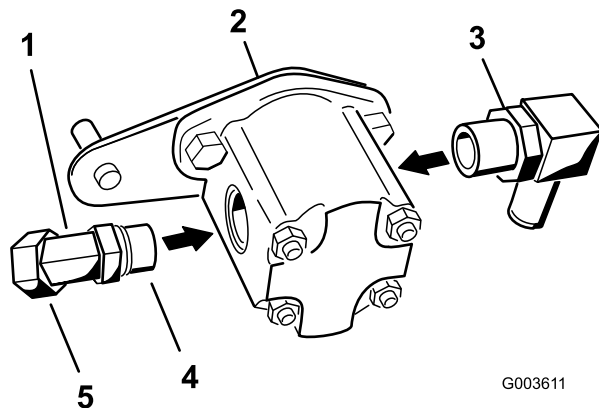

Figure 17
2. Install the 45 degree elbow to the side of the hydraulic pump (Figure 17).